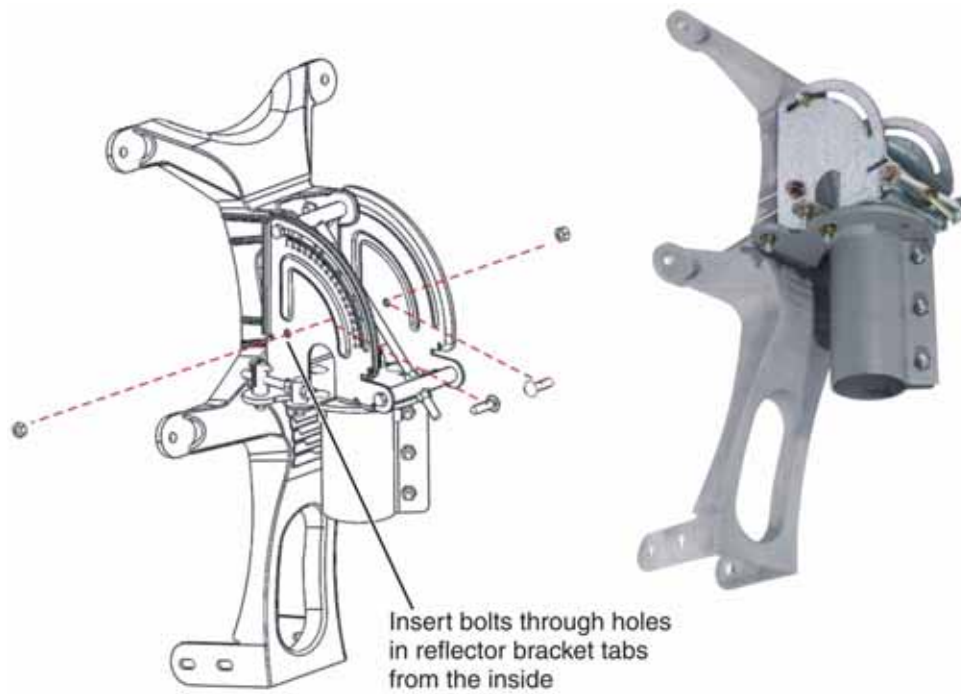

Figure 11: Securing the reflector bracket
3. Align the tabs on the reflector bracket with the two pivot holes in the sides of the Az/EI mount as shown in Figure 11, and insert two carriage bolts from the inside, out through the holes.